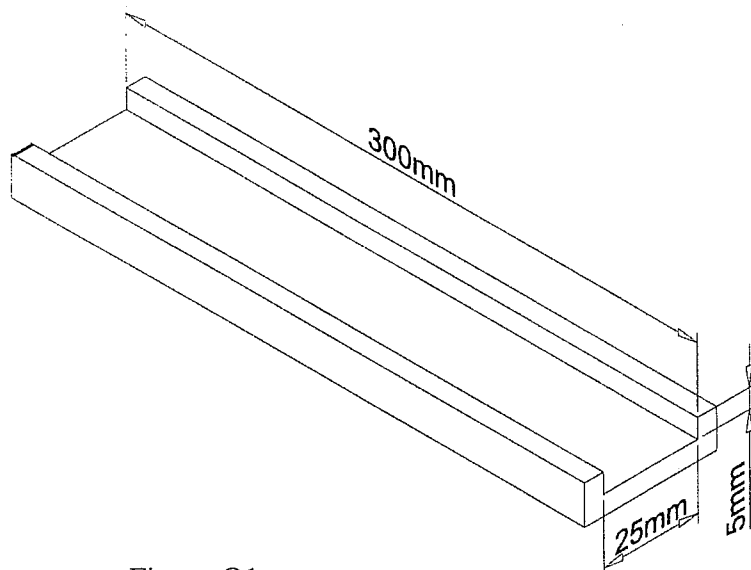

Figure Q1
- (iii) Determine the time required to mill a slot in a work piece of 300 mm long as shown on Figure Q1 in a horizontal milling machine with a side milling cutter of 100 mm in diameter having a width of 25mm and 18 teeth. The depth of cut is 5mm, the feed rate and the cutting speed are 0.1mm/s and 30 m/min respectively.